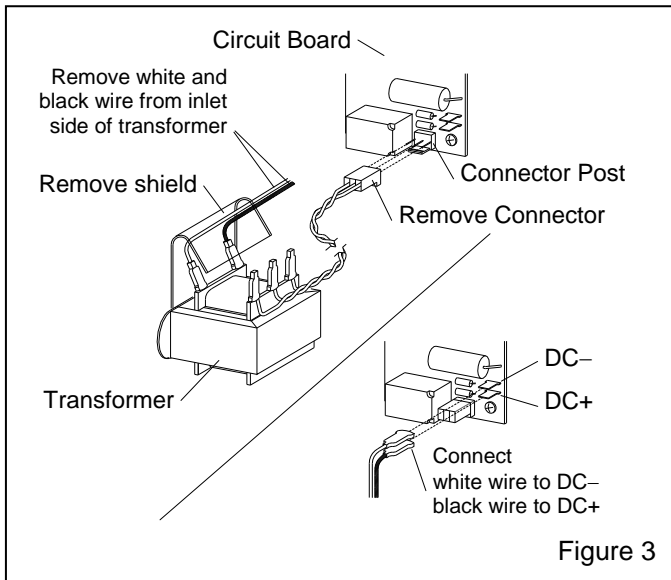

Figure 3
2.2.2 **12-Volt DC:** Although monitors are supplied with a 120-volt AC power cord, they are easily converted to operate on 12-volt DC. The following instructions explain the conversion. Use the supply cord provided with the monitor, or use another 2-wire cord if a longer one is required. Using the same process, but with 12-volt color codes, using "red" as positive. If a new 12-volt cord is used, splice the positive through the fuse, and use the spade on the outlet of the fuse to connect to the positive terminal. Refer to Figure 3.
2.2.2.5 Remove the connector from the outgoing side of the transformer (three wires) from the terminal board connector post as shown in Figure 3. If the monitor is to be permanently converted to 12-volts, remove the three wires from the transformer and remove the wire.
2.2.2.6 Loosen the transformer mounting screws and remove the plastic shield from the incoming side of the transformer. Remove the "white" and "black" wire terminal connectors from the incoming side of the transformer, Ref. Figure 3. Tighten the transformer mounting screws.